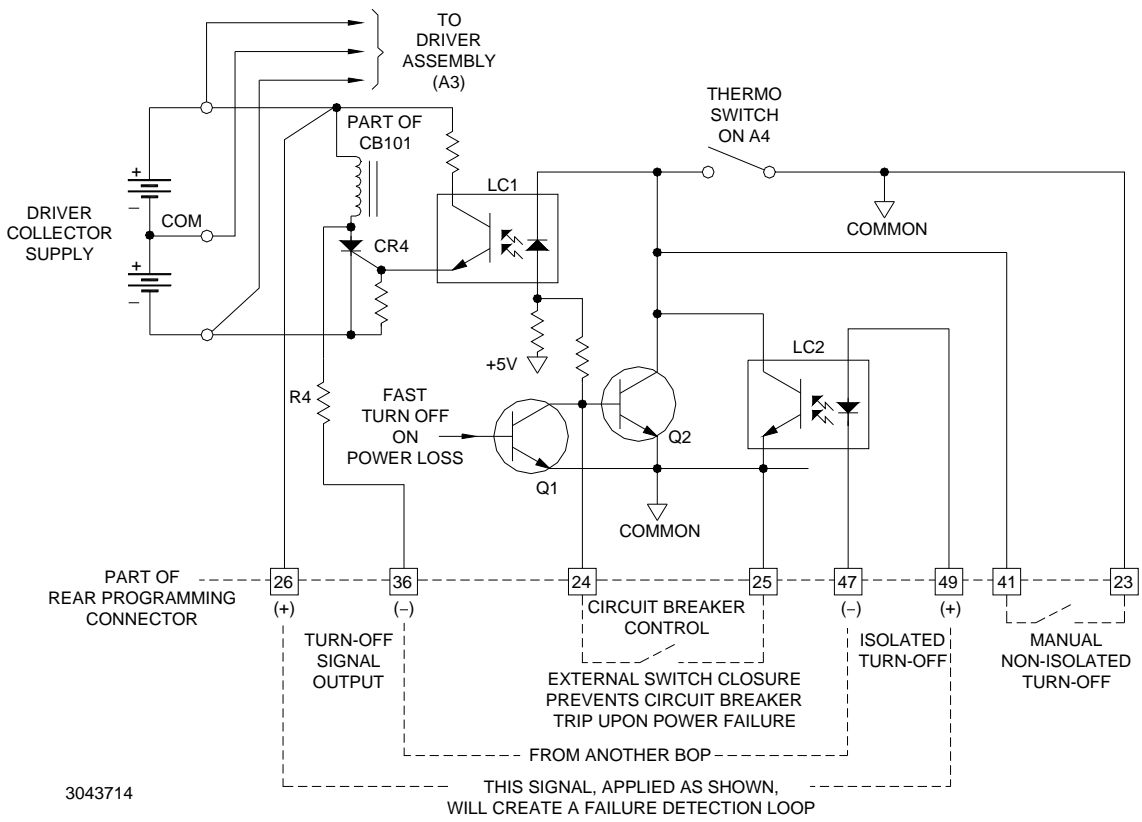

FIGURE 3-24. CIRCUIT BREAKER CONTROL CIRCUIT, SIMPLIFIED DIAGRAM.
Each BOP channel is protected by the dual-coil circuit breaker/ON-OFF switch (CB101) as shown in Figure 3-24. The current sensing coil of CB101 is connected in series with the primary winding of T201, thus detecting overcurrent reflected into the primary circuit and subsequently tripping the circuit breaker. The voltage sensing coil of CB101 is connected in series with an SCR (CR4) across the driver collector supply. If the SCR is triggered on, the voltage sensing coil is energized and trips the circuit breaker. The SCR (CR4) can be triggered in several ways:
- A manual, non-isolated turn-off is provided which, when implemented with an external switch contact as shown in Figure 3-24, will energize the diode in the first optocoupler (LC-1). thus providing the SCR turn-on.